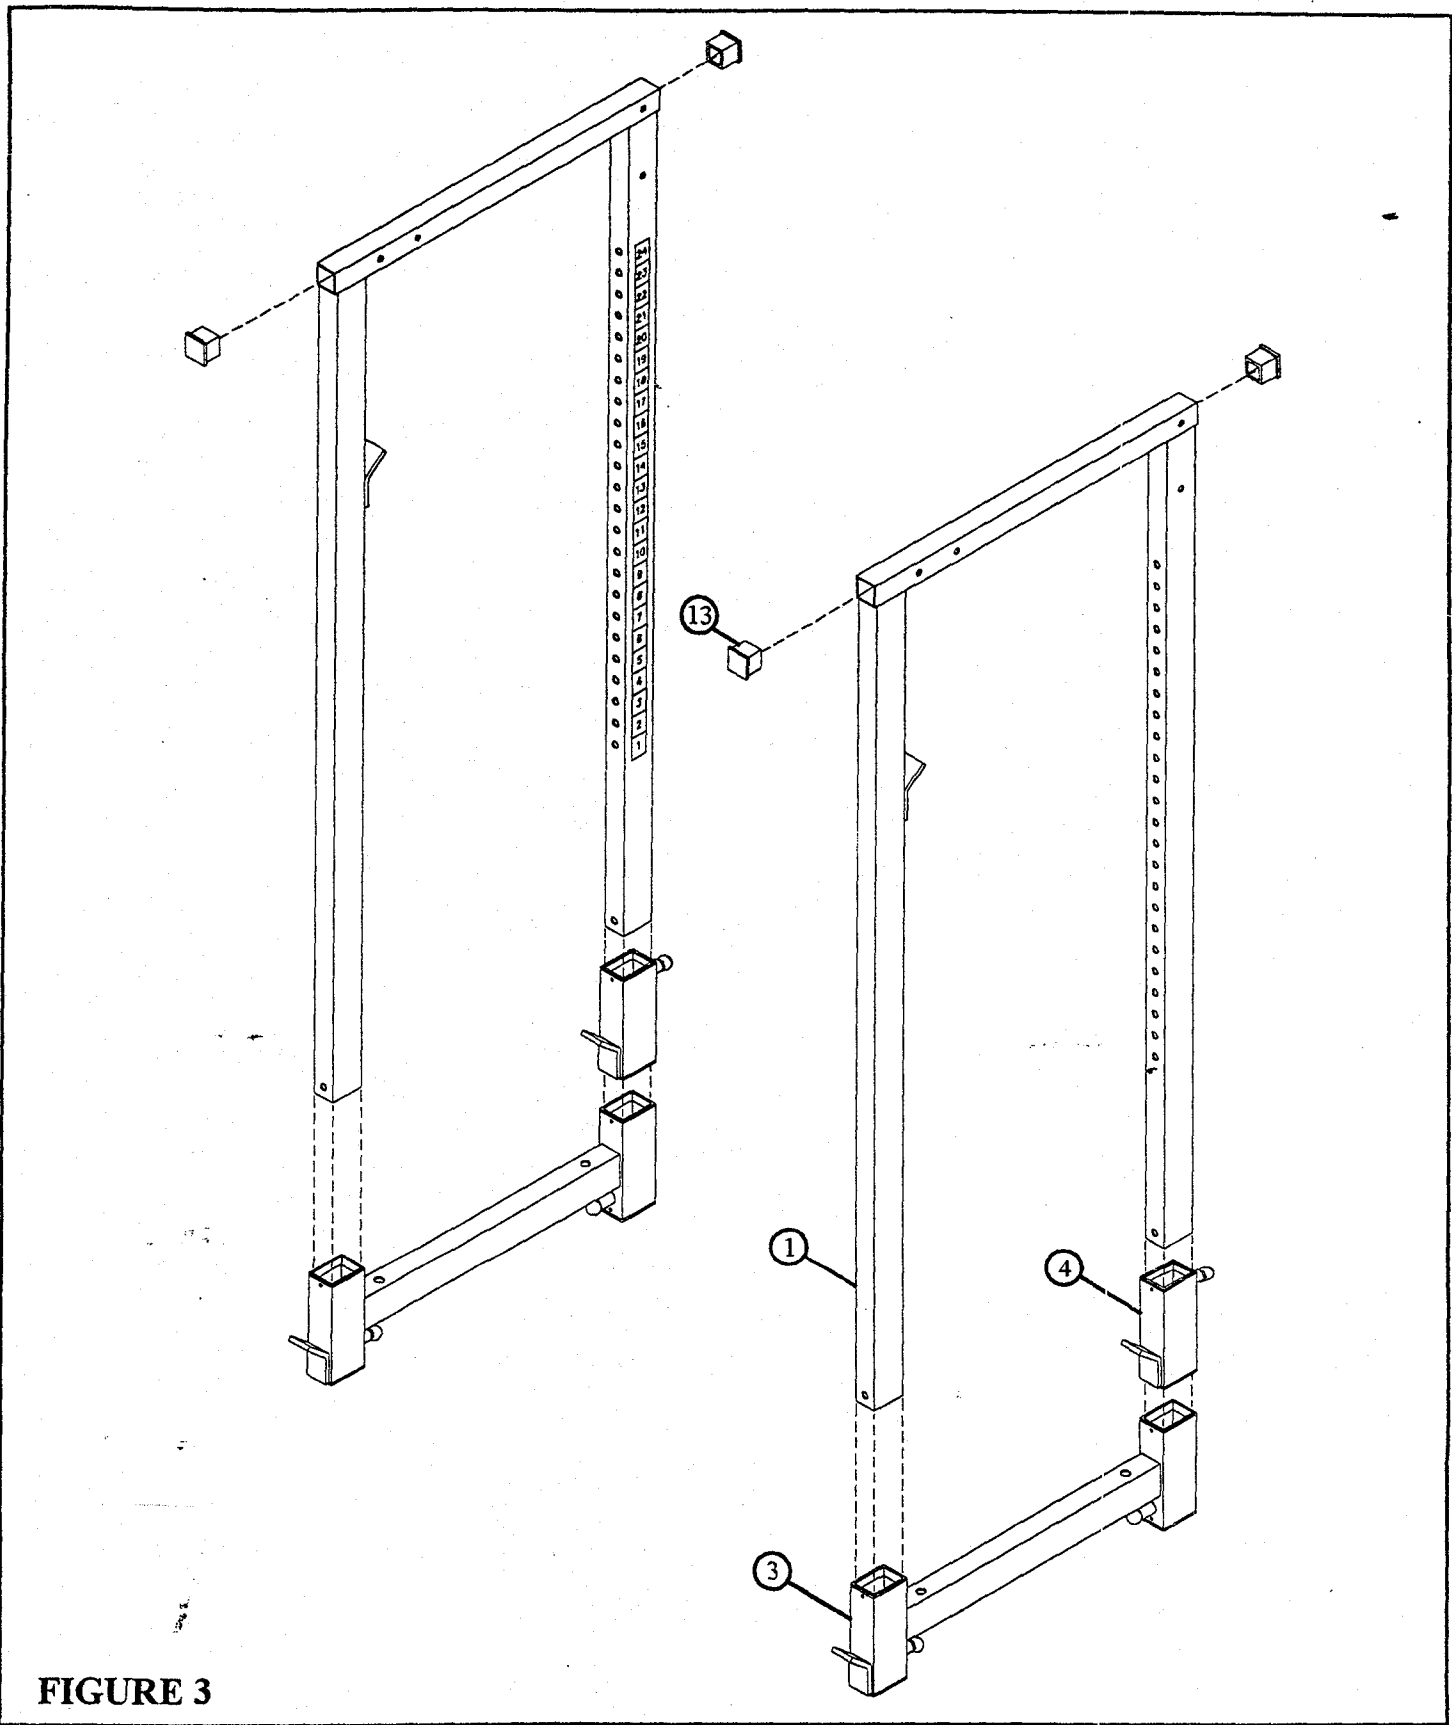

**FIGURE 2**
- Insert twelve 3 X 2" INSERT GUIDES (15) into the ends of each SAFETY RAIL (3) and BAR SUPPORT (4) as shown in FIGURE 2. (NOTE: Make sure the INSERT GUIDES (15) snap into the holes of the weldments.)
- SECURELY assemble the six SPRING PIN ASSEMBLIES (12) to the SPRING PIN BARRELS on each SAFETY RAIL (3) and each BAR SUPPORT (4) as shown in FIGURE 2.